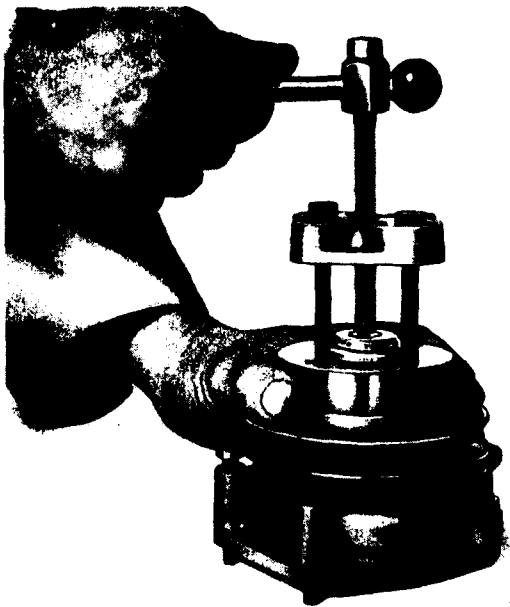

Fig. P.4.
2. Remove water pump pulley by means of a suitable puller, the holes in the pulley face may be utilised for this purpose. (See Fig. P.4).